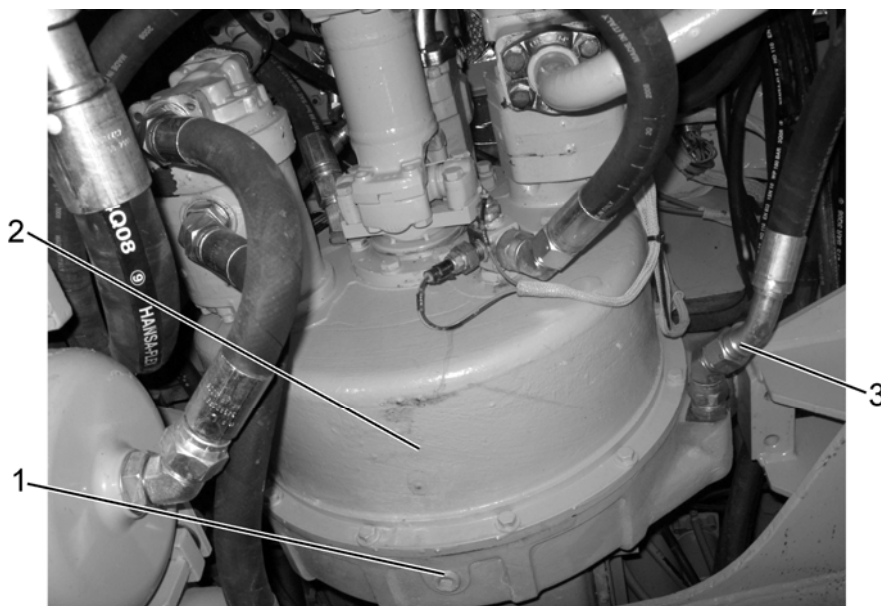

Fig. 7B.3. Drain Hose End Disconnecting (Bottom View)
5. TORQUE CONVERTER INTERNAL LEAKAGE TEST (Refer to Fig. 7B.3)